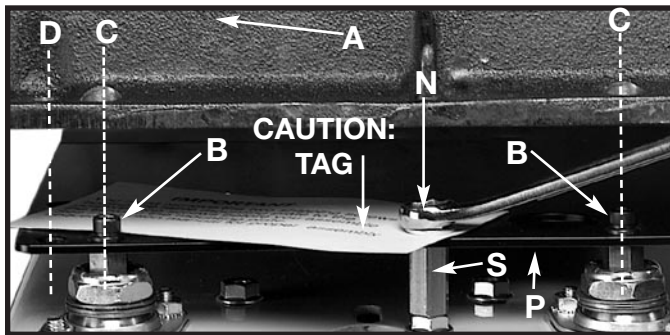

Fig. 5
1. **CAUTION** Remove the front and rear shipping bolts that were installed to stabilize the support plate during transit. These bolts, one shown at (N) Fig. 5, should be removed before attaching table. Use a ½" wrench to hold hex stop post (S) then with another ½" wrench loosen and remove hex bolts (N)
NOTE: DO NOT remove the hex stop post (S) Fig. 5.
2. The abrasive belt and the motor for the feed table are shipped assembled. Place the feed table (A) Fig. 5 on the support plate (P), inserting the motor side first. Align holes in table (two of which are shown at C) with top of leveling screws (B).